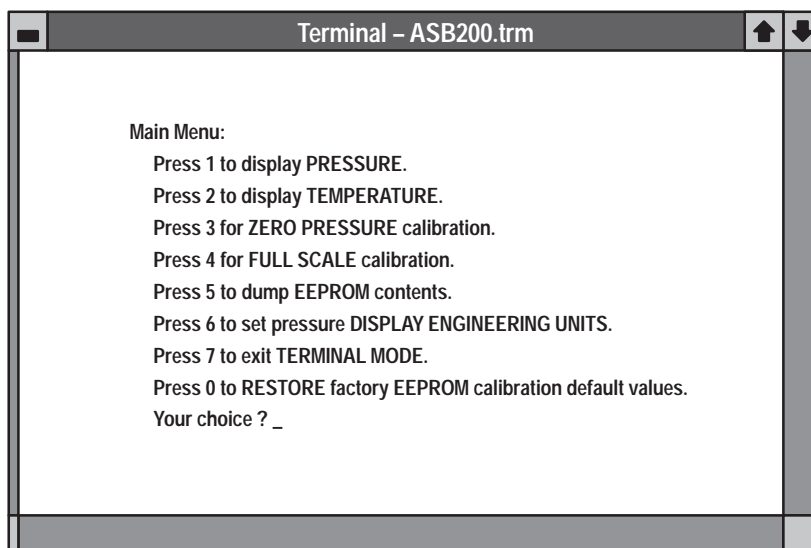

Figure 5. ASB200 Main Menu
4. Restore power to the ASB200 board. The system will start in the non-terminal mode. To activate terminal mode, depress any key on the terminal keyboard. (SW1 must be set per Table 3 when entering terminal mode or the display will display “Err”. The error will occur if SW1 was set to display temperature or in the restore factory calibration mode when the system was put in terminal mode). A “Main Menu” will appear on the terminal’s display. The menu is shown in Figure 5. Menu choices are driven by a single keystroke. Depressing the “Enter” key on the keyboard is unnecessary.
The main menu as shown in Figure 5 allows the following command options: